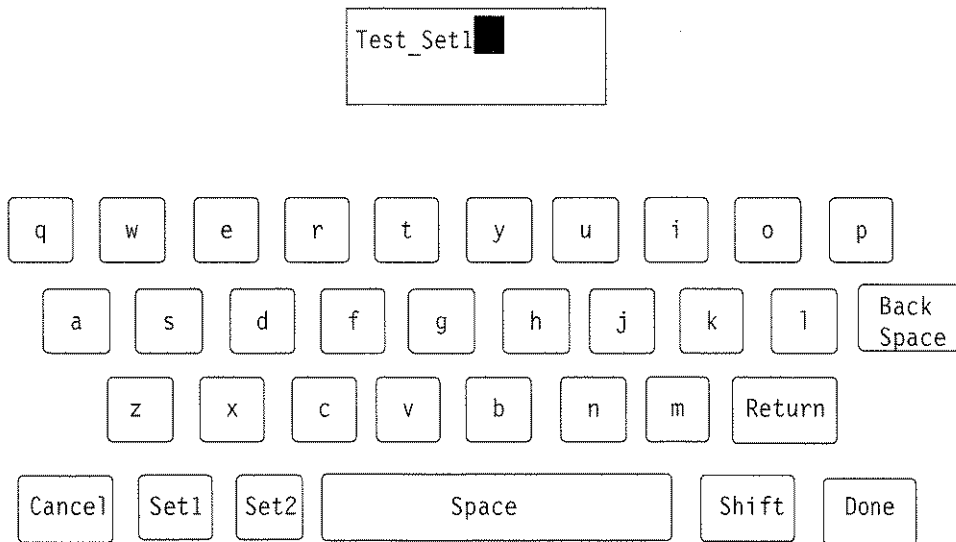

Figure 2-6: File naming keyboard
4. Press the **Create File** soft key. Doing so displays the prompt “Please select a file as template” at the top of the display. Touch the icon corresponding to the file you want to copy (normally System Default). This copies the contents of the selected file. To allow you to name the new copy, a box appears in the center of the directory window and a keyboard appears below it as shown in Figure 2-6. The characters you select (type) appear in this box.
- If the item that you touch is to be edited alphabetically, a keyboard appears on the lower half of the display screen (see Figure 2-6).